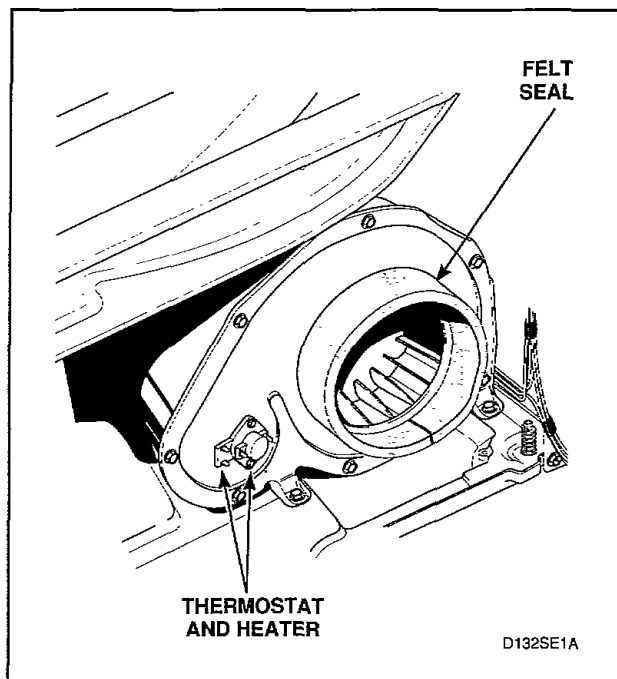
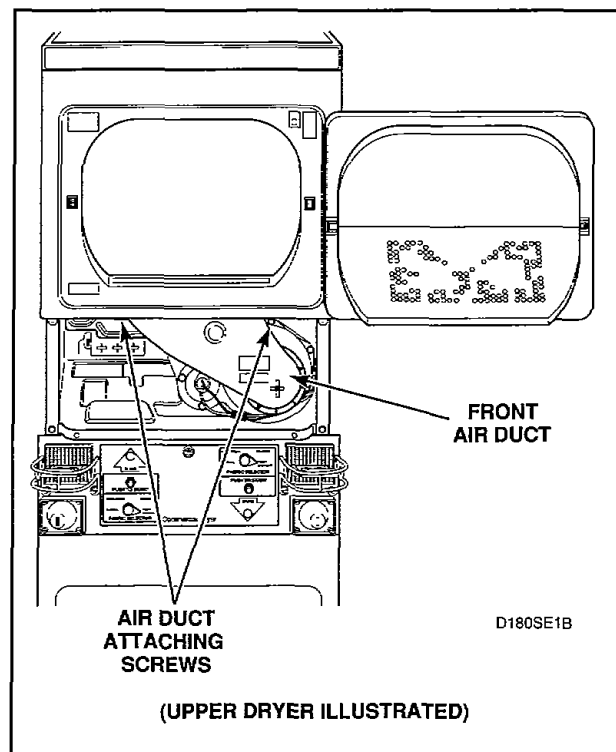

Figure 30
Figure 31
- Disconnect wires and remove thermostat attaching screws, *Figure 30*, and remove thermostat and heater.
- Remove two screws holding air duct to front bulkhead and remove air duct, *Figure 31*.
IMPORTANT: When reassembling, make sure felt seal on exhaust fan cover, *Figure 30*, makes air tight seal on flange of duct, *Figure 31*. If the seal is installed improperly, the airflow through the exhaust system will be restricted which can adversely affect dryer performance.
- d. Remove two screws holding air duct to front bulkhead and remove air duct, *Figure 31*.
IMPORTANT: When reassembling, make sure felt seal on exhaust fan cover, *Figure 30*, makes airtight seal on flange of duct, *Figure 31*. If the seal is installed improperly, the airflow through the exhaust system will be restricted which can adversely affect dryer performance.